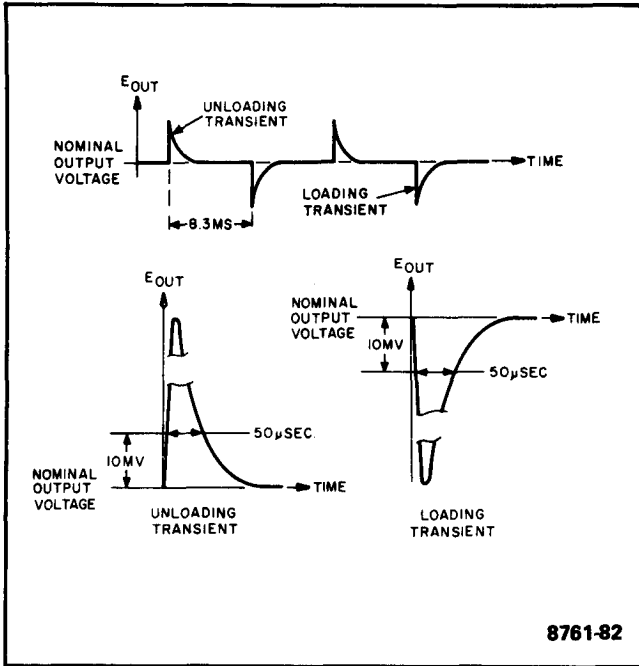

Figure 5-5. Load Transient Recovery Time Waveforms
**5-27 Load Transient Recovery Time (Figure 5-5)**
- Starting from the major graticule division representing time zero, count to the right 50µsec and vertically 10mV. Recovery should be within these tolerances as illustrated in Figure 5-5.